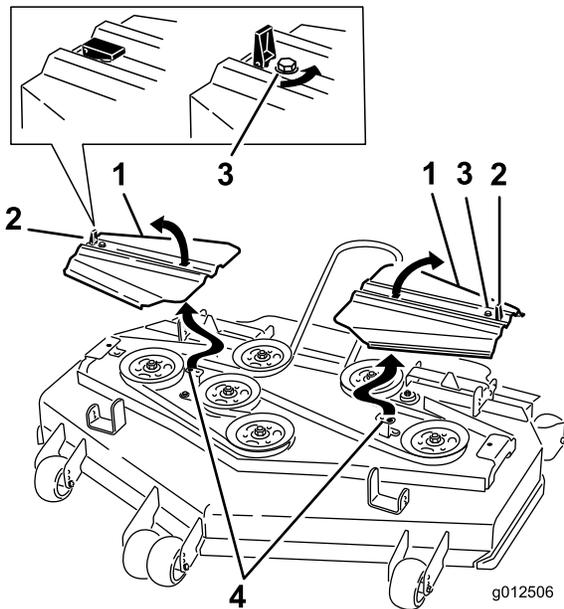

Figure 90
14. Install the belt covers with the tabs in the slots. Install the screws and close the latches (Figure 90).